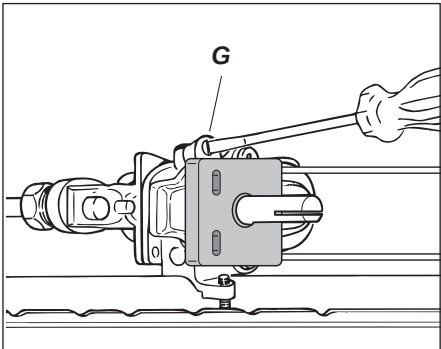

Fig. 9.12
- remove the knob and by a thin screw-driver (3 mm section - 100 mm long) unscrew of about a half turn the screw by-pass G, passing through the front panel hole (fig. 9.12)